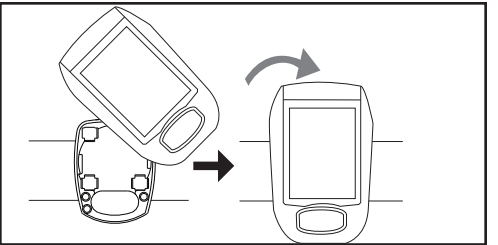

FIGURE 5
STEP 2: Attach the computer head to the bracket. Press the computer head into the bracket and rotate it clockwise to lock in place. See Figure 5. You should feel the computer head click securely into the bracket.